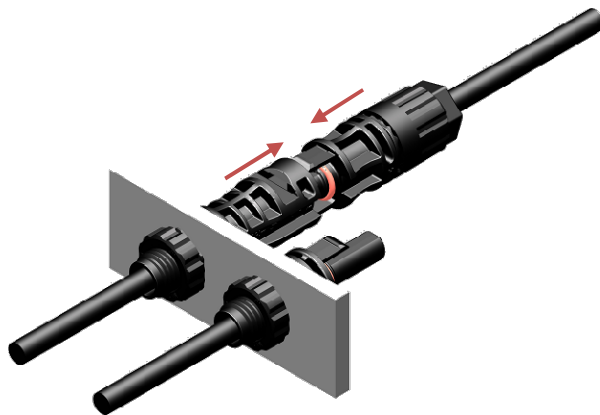
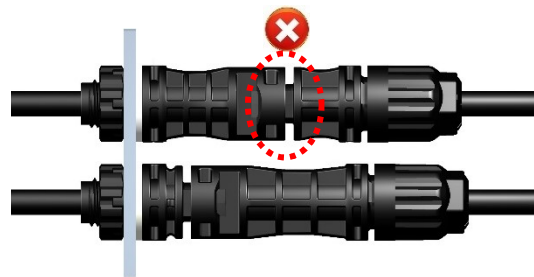

Figure 20
Figure 22
- ✧ 公母连接器插合：将公/母电缆连接器插入母/公面板连接器，直至其啮合。轻轻拉动，以检查是否啮合牢固（如图 20&21）。同时检查公母连接器有无对配不到位现象（如图 22）。
Insert the Male/ female cable connector into the female/ male panel connector until they engage. And pull lightly to check correct engagement (Fig. 20&21). At the same time, check whether the male and female connectors are in place or not (Figure 22).